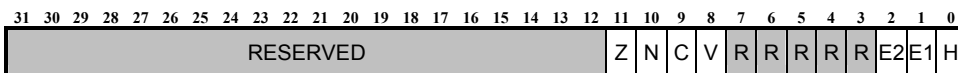

Figure 8.1 Status Register 32-Bit
The status register contains the status flags. The status register (STATUS32), shown in Figure 8.1, contains the following status flags: zero (Z), negative (N), carry (C) and overflow (V); the interrupt mask bits (E[2:1]); and the halt bit (H).